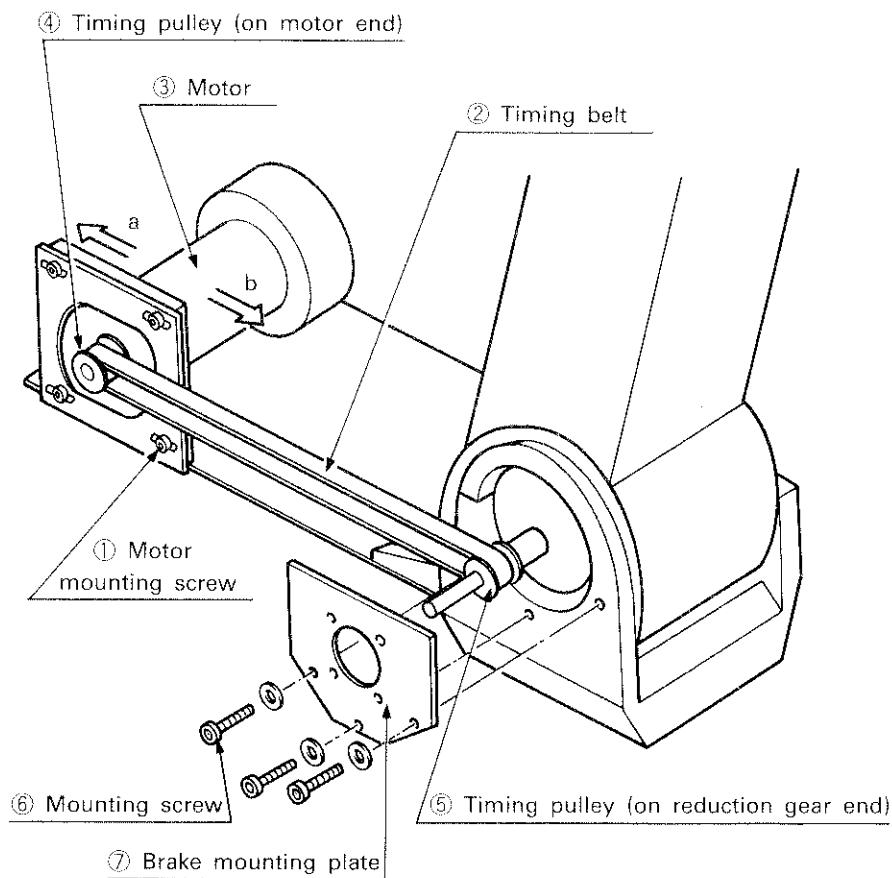

Fig. 4.3.8 Checking, Adjusting, and Replacing the Shoulder Drive Timing Belt
(1) Fig. 4.3.8 outlines the inspection procedure of the shoulder drive timing belt.
(2) Remove the upper shoulder cover by referring to 3.2 Removal of the Covers.
(3) Visually check the belt to make sure that it does not develop any of the symptoms given in (1) to (5), 3.4.1
(1) Fig. 4.3.8 also outlines the adjustment procedure of the shoulder drive timing belt.
(2) Loosen the four motor mounting screws ①.
(3) While feeling the tension in the timing belt ②, move the motor ③ in the directions shown by arrows "a" and "b". Note that the motor ③ is secured using the four screws in the slots so they can be moved in the slots.
(4) Moving the motor in the direction shown by arrow "a" tightens the belt; moving it in the direction shown by arrow "b" slacks the belt.
(5) Do not move the motor too far in direction "b", or the belt ② comes off the timing pulleys ④ and ⑤.
(6) After the belt tension has been adjusted, tighten motor mounting screws ① securely. A loose motor mounting screw results in the belt slackening off.
(1) Fig. 4.3.8 also outlines the replacement procedure of the timing belt.
(2) Remove the brake by referring to 3.6.1 Checking, adjusting, and replacing the shoulder brake.
(3) Remove the three mounting screws ⑥ to remove the brake mounting plate ⑦.